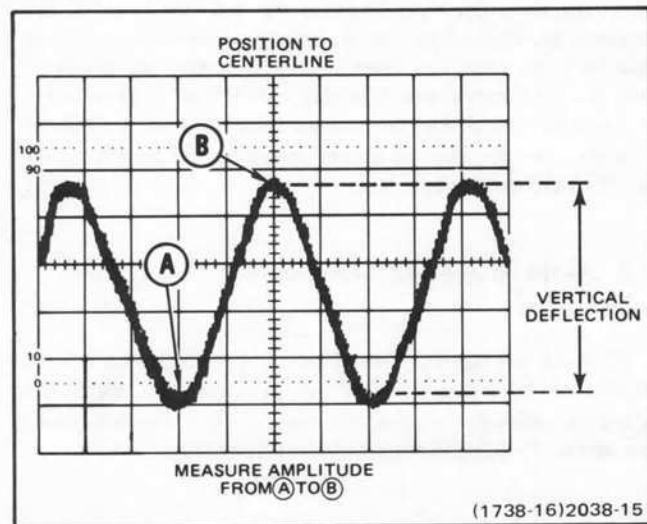

Figure 13. Peak-to-peak waveform voltage.
6. Vertically position the display so that the negative peak of the waveform coincides with one of the horizontal graticule lines (see Figure 13, Point A).
7. Horizontally position the display so that one of the positive peaks coincides with the center vertical graticule line (see Figure 13, Point B).
8. Measure the vertical deflection from peak to peak (see Figure 13, Point A to Point B).
**EXAMPLE:** The measured peak-to-peak vertical deflection is 4.6 divisions (see Figure 13) with a VOLTS/DIV switch setting of 0.5, using a 10X probe.